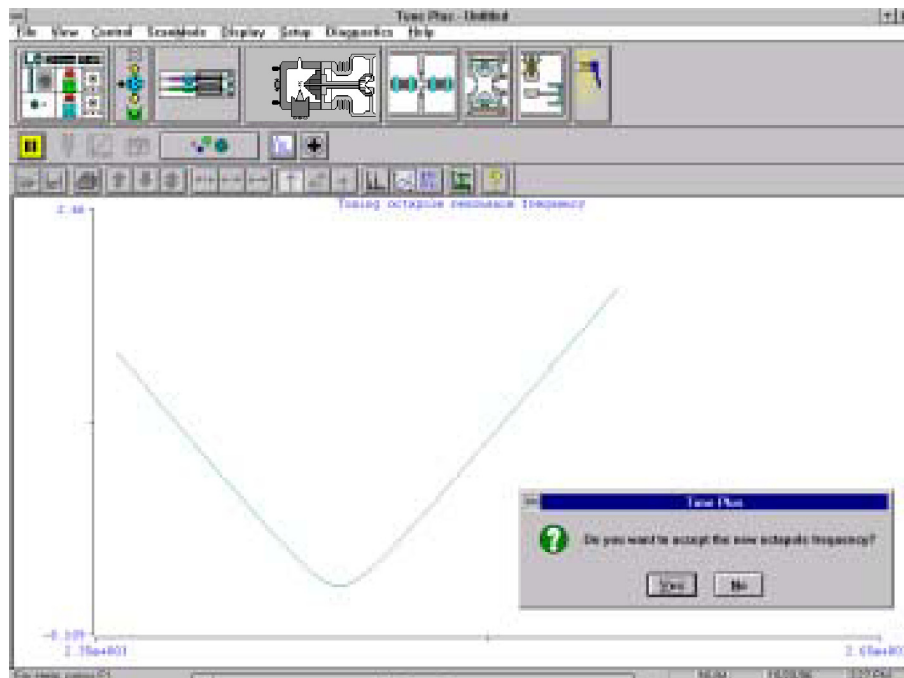

Figure 4-10. Graph view for octapole RF voltage tuning
- c. Click on the **Start** button to start the octapole RF voltage tune program. A frequency function appears in the Graph view. See Figure 4-10. The minimum of the frequency function should lie between 2400 and 2550 kHz.